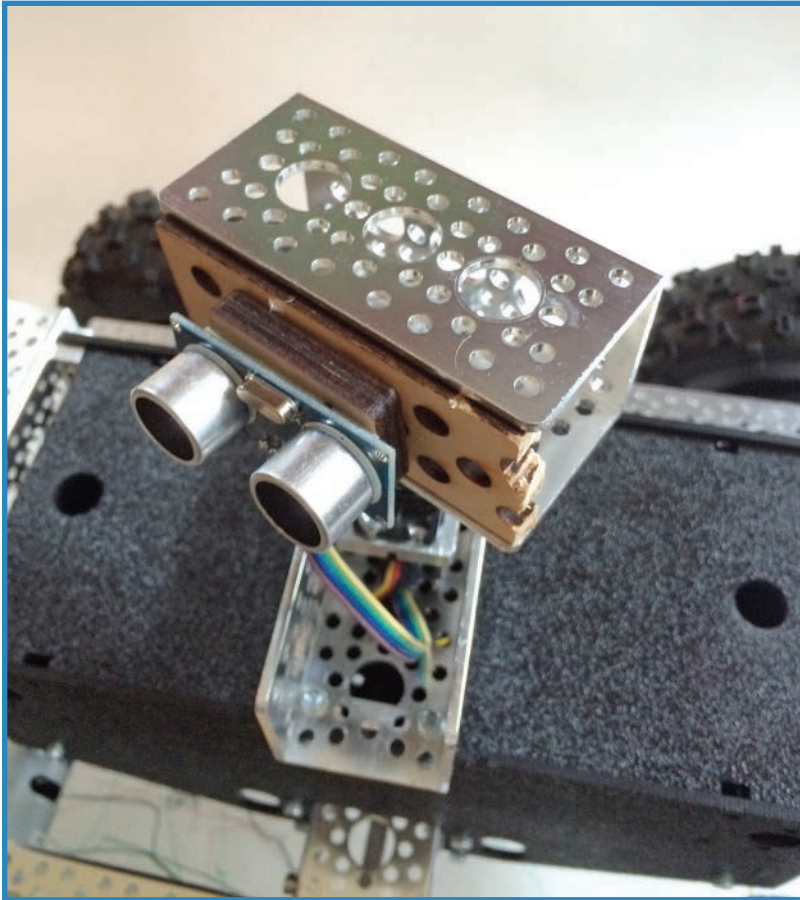

FIGURE 13.25 Install the ultrasonic sensor assembly.
16. Install the ultrasonic sensor assembly in the 3" channel. Use #3 pan-head screws to secure the wood, or else just use the friction method: The pieces of wood I used were exactly the right width to be held in place without hardware. Figure 13.25 shows how it should look.